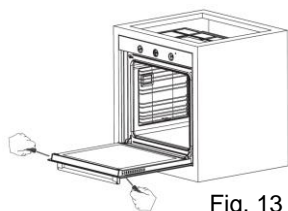
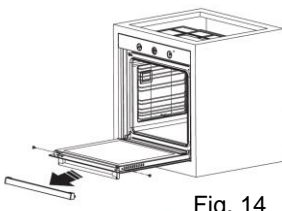

Fig. 13
Fig. 14
2. Remove the screws located on both sides (right and left) of the profile as shown in Figure 13, then remove the profile by pulling it out as shown in Figure 14. The glass will be free after removing the profile as shown in Figure 15. Carefully pull the released glass towards you. If it includes a central glass, it can also be removed in the same way. The outer glass is fixed to the door frame. Once the crystals are clean, proceed to place them in the reverse way to that described to extract them.